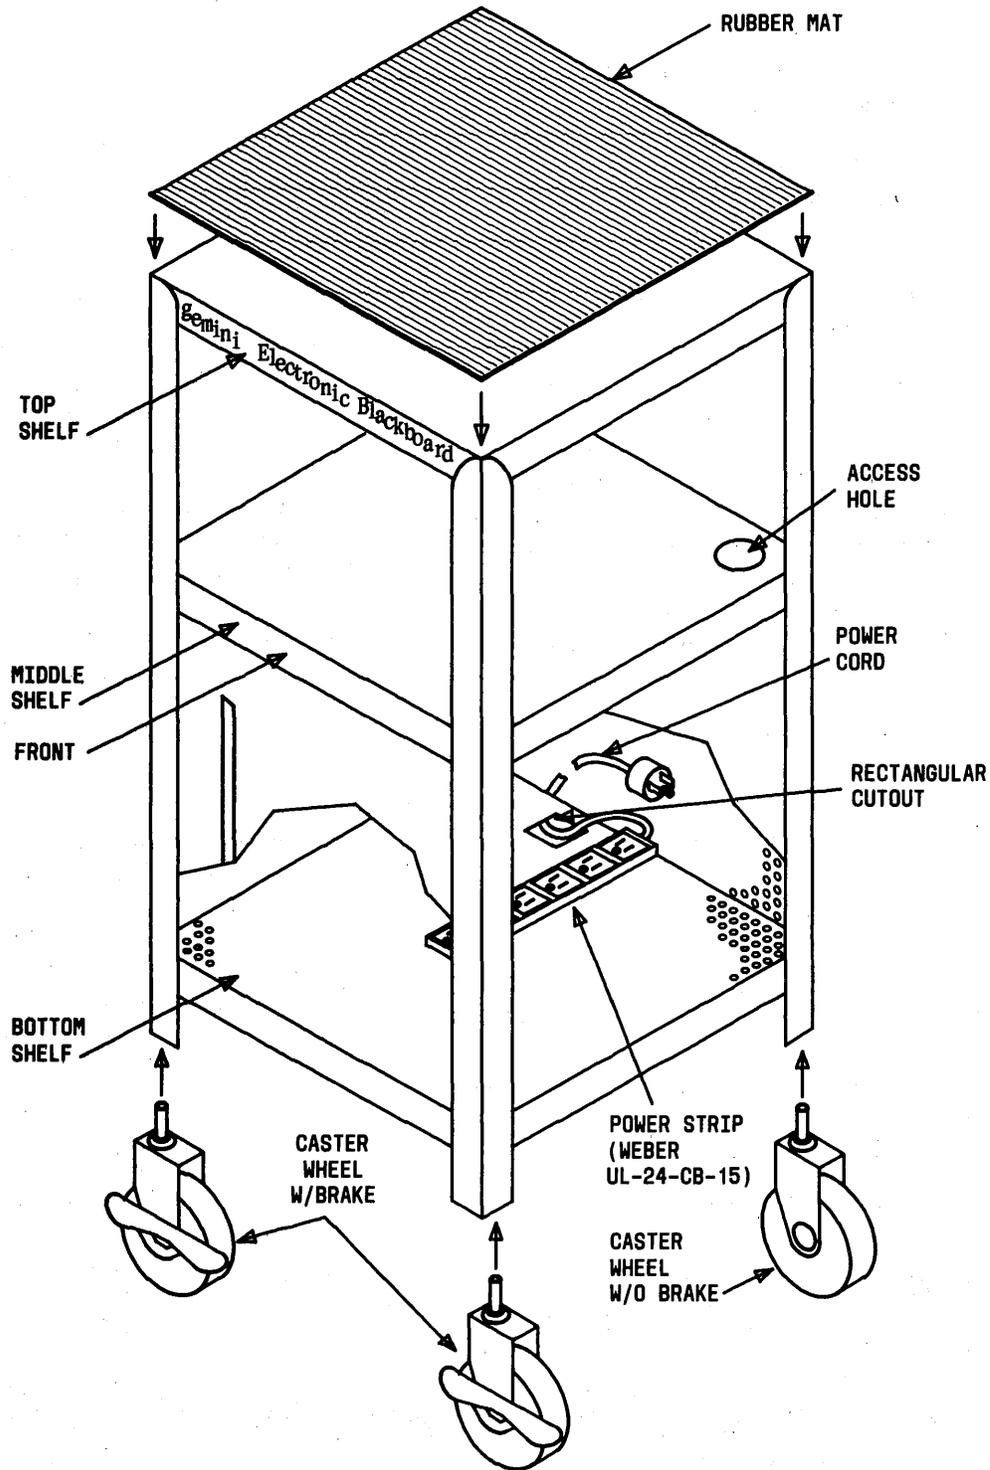

Fig. 33—KS-21888 Cabinet Assembly Arranged for KS-21889-L1 Memory Unit
5.34 Assemble the KS-21888 cabinet (Fig. 33 and 34) as follows: